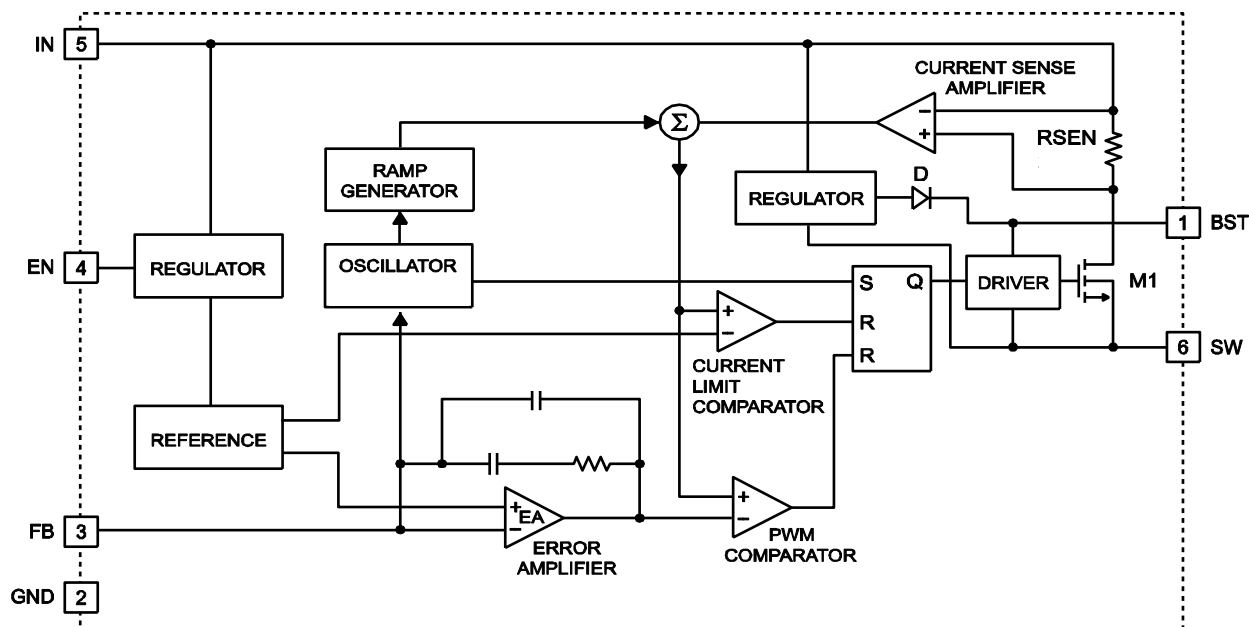

Figure 2: Functional Block Diagram of Buck Regulator
The external resistor divider sets the output voltage (see the Typical Application schematic). Table 2 lists resistors for common output voltages. The feedback resistor (R1) also sets the feedback loop bandwidth with the internal compensation capacitor (see Figure 2). R2 can be calculated with Equation (2):